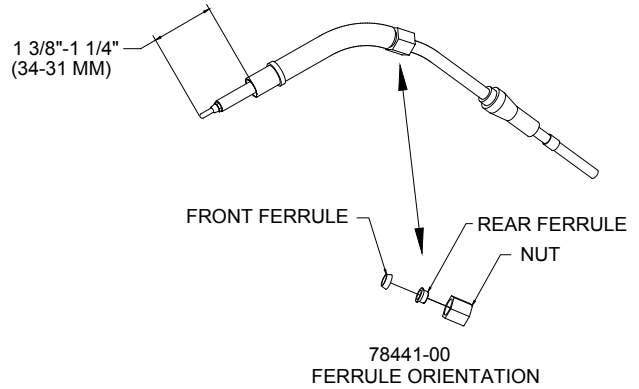

Figure 16: 78441-00 Ferrule Orientation
- ▶ Remove curved tube (A11691-00) and locknut (A11318-00) to ensure proper grooves are filled with dielectric grease before cable installation (see Figures 16 or 49). Remove and clean any excess grease after assembly.